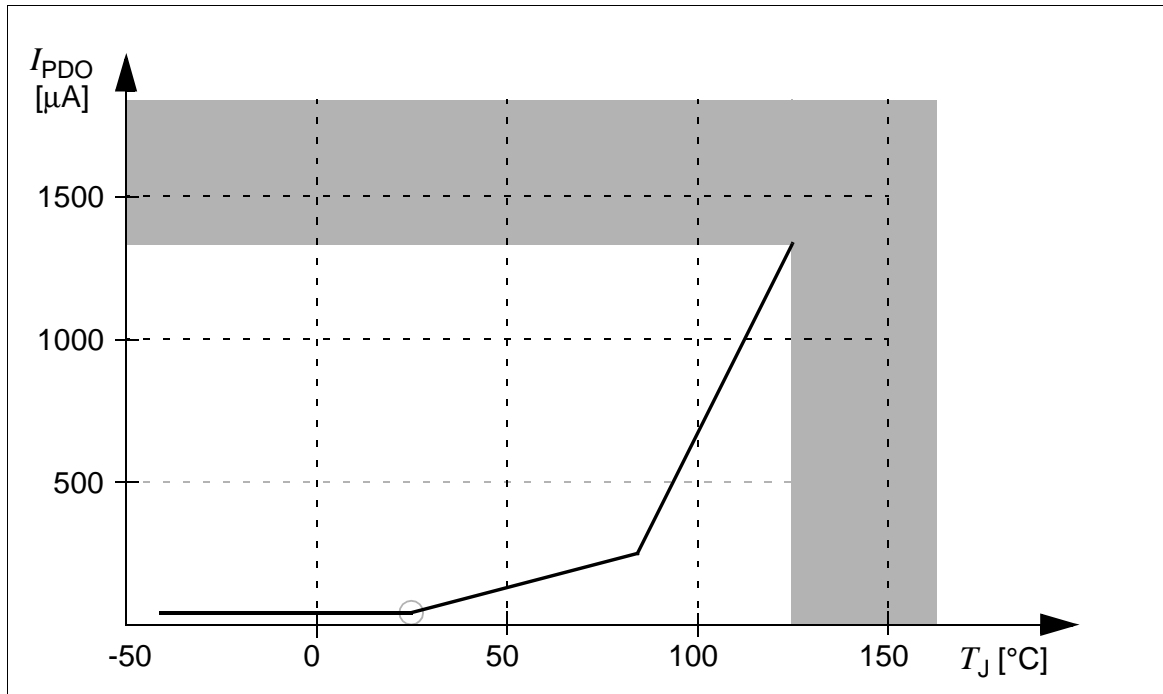

Figure 12 Sleep and Power Down Supply Current as a Function of Temperature
- ⁵⁾ This parameter is determined mainly by the transistor leakage currents. This current heavily depends on the junction temperature (see Figure 12). The junction temperature T_J is the same as the ambient temperature T_A if no current flows through the port output drivers. Otherwise, the resulting temperature difference must be taken into account.